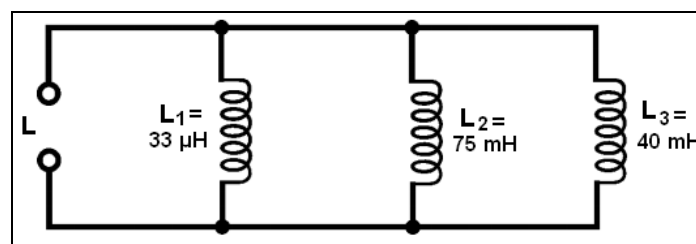

Fig. 2.1-16
2. Calculate the total inductance and total reactance at 60 Hz frequency in below circuit (Fig. 2.1-16)